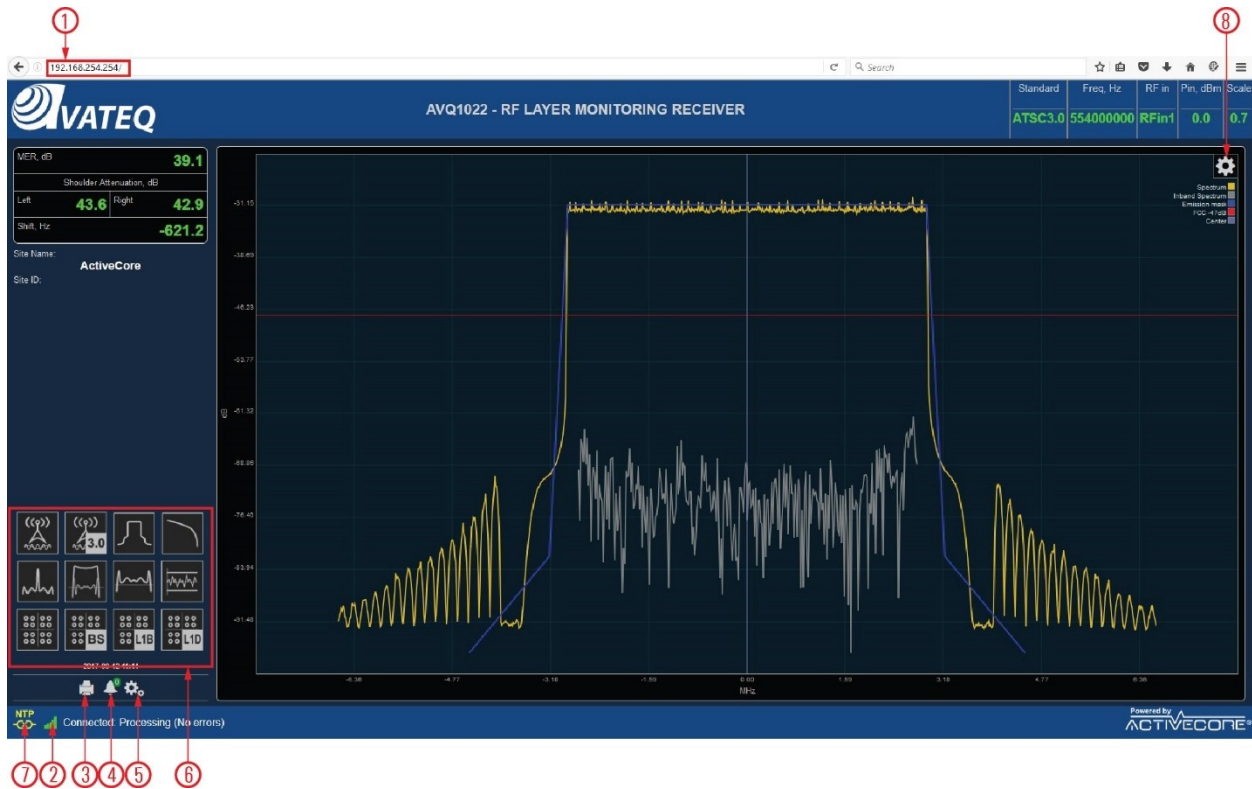

Figure 3. UI Main Page with Available Result and Navigation Controls:
- verify basic communication between the Host and Receiver; you should be able to connect to the Receiver using the WEB browser by entering the Receiver IP address and see its WEB UI main page. Please refer to Figure 3 (1) below;
- make sure that the “Connection” bar is green and “Connected” status is present, Figure 3 (2);
The Receiver Main (or default) WEB page layout is presented in Figure 3.
Navigation between the UI pages is done by pressing icons from area 6, Figure 3, of the main window providing an intuitive interface to all parameters and settings of the receiver.